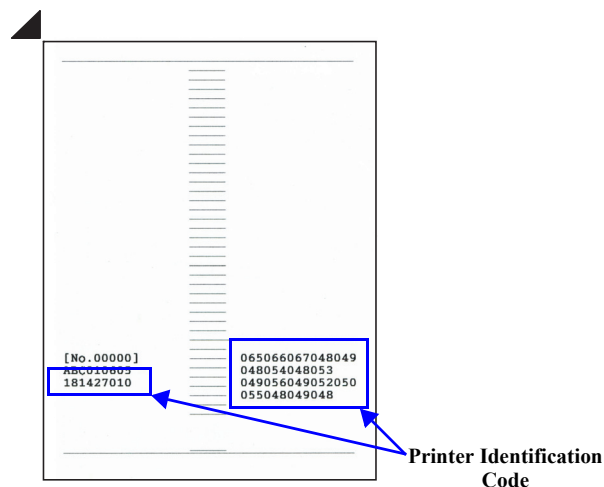

Figure 5-27. PFP Test Pattern
*2: Two PFP Base scales are required for PFP adjustment. They should be set on the origin side and also on right side of the PFP Adjustment Pattern. (See Figure. 5-27.)